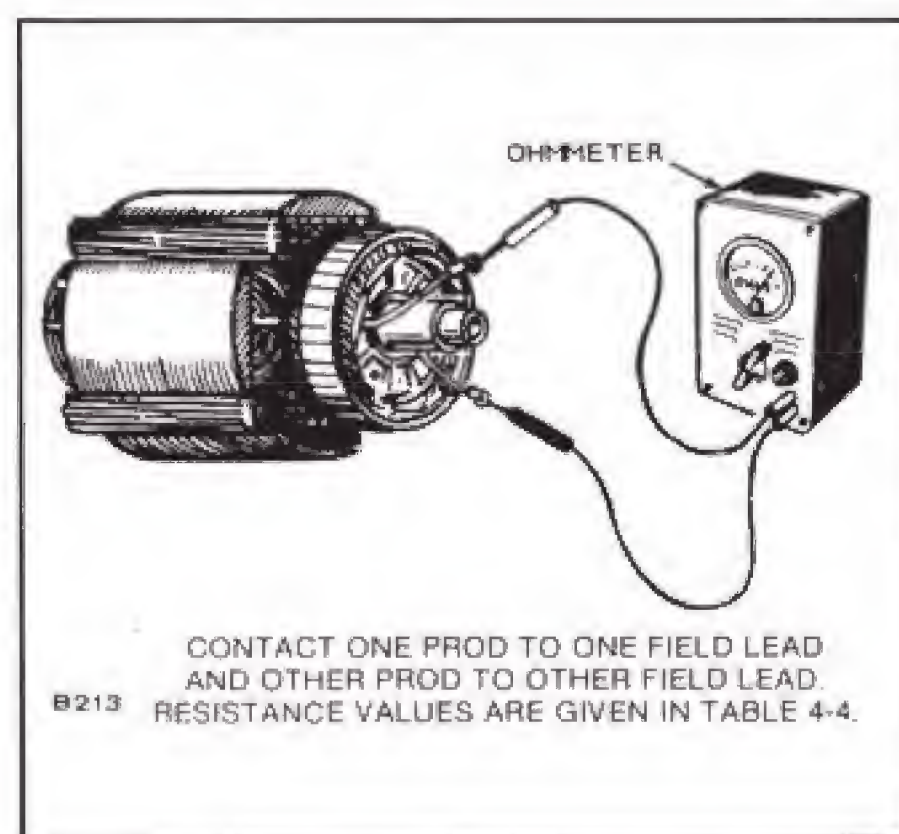

FIGURE 4-30. TESTING ROTOR FOR AN OPEN CIRCUIT
2. Using ohmmeter, check resistance between F1 and F2 leads, Figure 4-30. See Table 4-4 for proper resistance values.